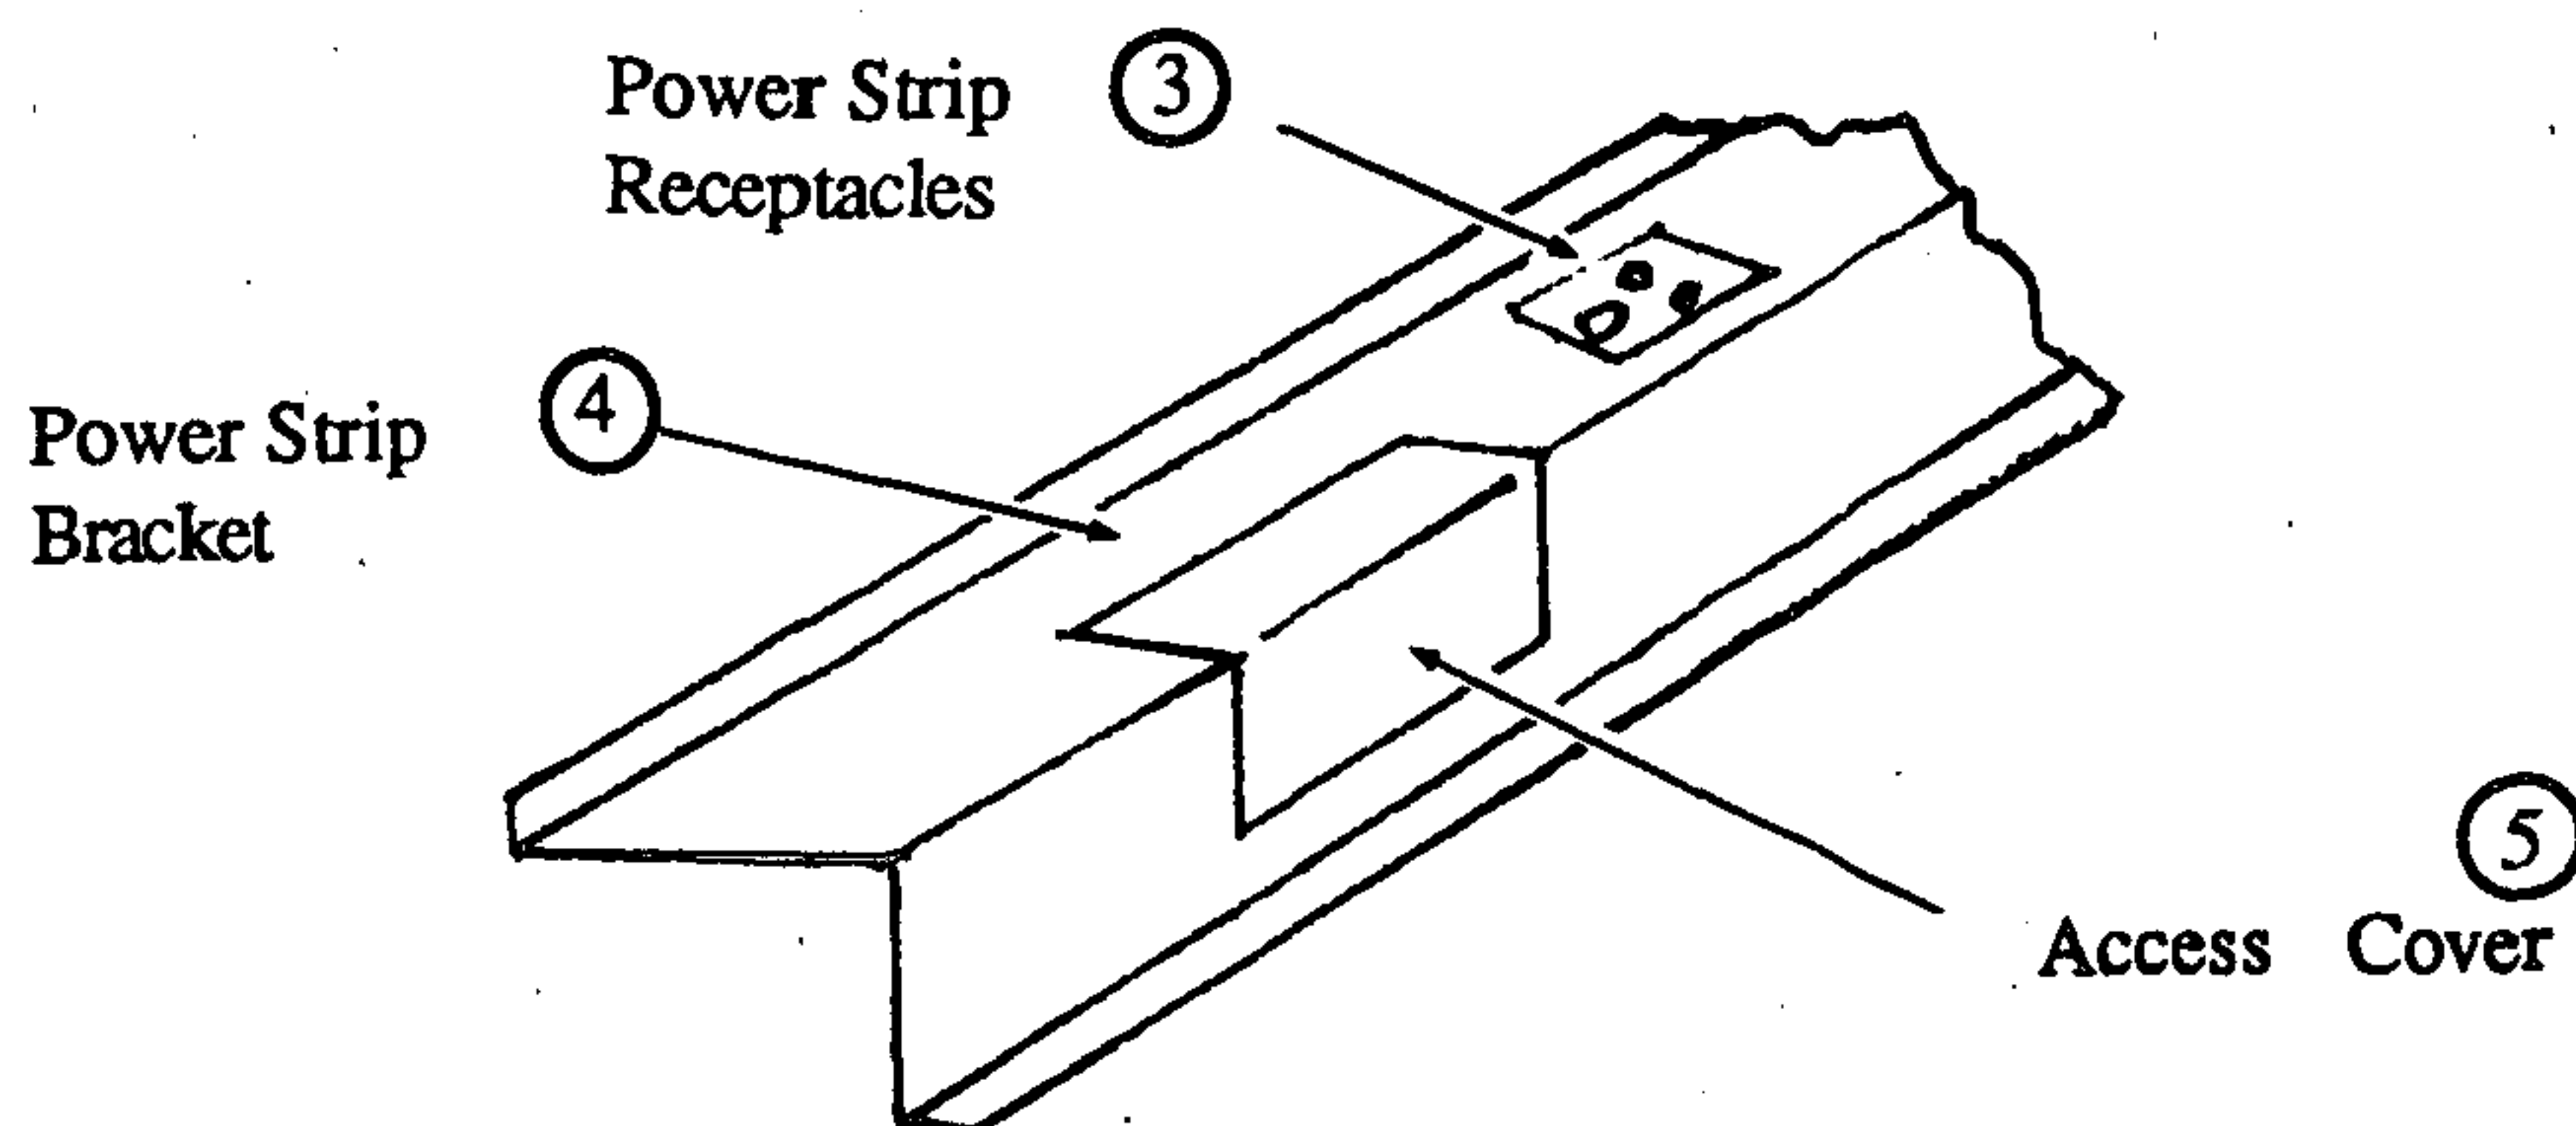

Figure 2. Access Cover Location on Receptacle Bracket
2. Run 120V AC power to the enclosure using 3/4 inch solid conduit. Enter the enclosure using one of the two 7/8 inch knockouts on the lower left hand side. The knockouts are to be accessed by removing the field wiring access plate on the 3 receptacle power strip inside the enclosure (see Figure 2).